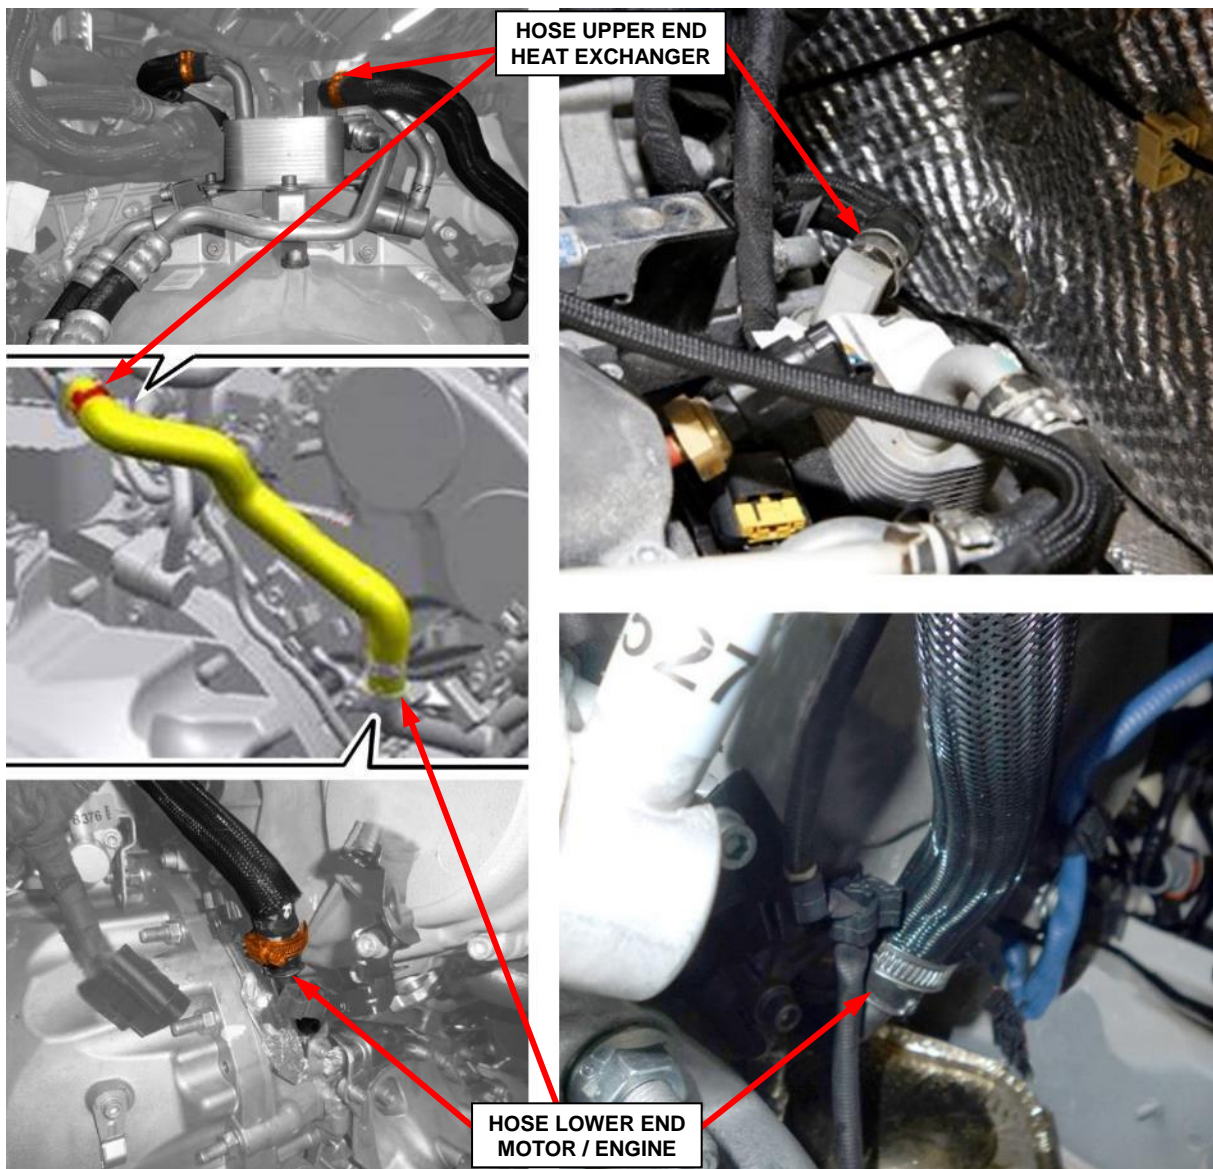

Figure 23 – Engine Coolant Hose
- 49. Remove and discard the clamps from both ends of the engine coolant hose between the engine water supply pipe to automatic transmission oil heat exchanger on the right side of the engine (Figure 23).
- 50. Remove and discard the engine coolant hose (Figure 23).
2. Install the new hose with clamps to the engine water supply pipe and the heat exchanger (Figure 23).